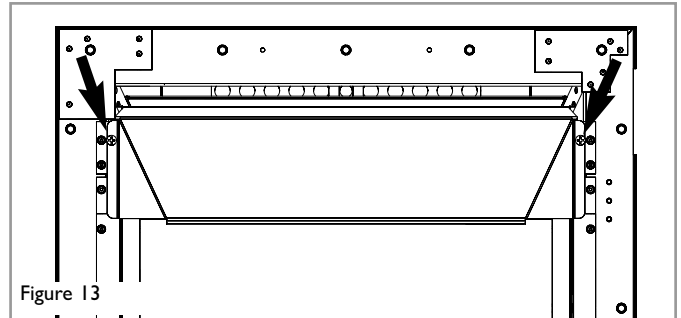

Figure 13
**Hood :** Now fit the hood. This is provided separately. Remove all protective packaging materials. Carefully attach using two No8 x 5/16 self tapping screws (also provided within loose parts) in the positions shown in figure 13. Do not overtighten.